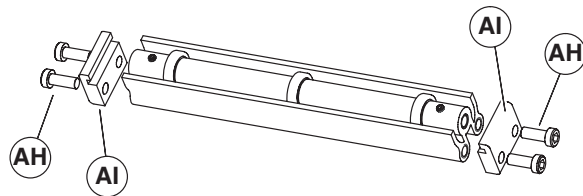

Figure 16
- Locate return rollers. Exploded view shown in Figure 16.
- Remove screws (Figure 16, item AH) and clips (AI) from roller assembly.